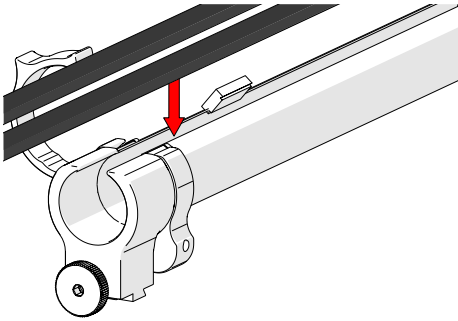

Fig. 84 - Insert cables and hoses
1. Open the zipper of the cable management. Begin at the management's dovetail mount and place the cabling in the sleeving (*Fig. 84*).